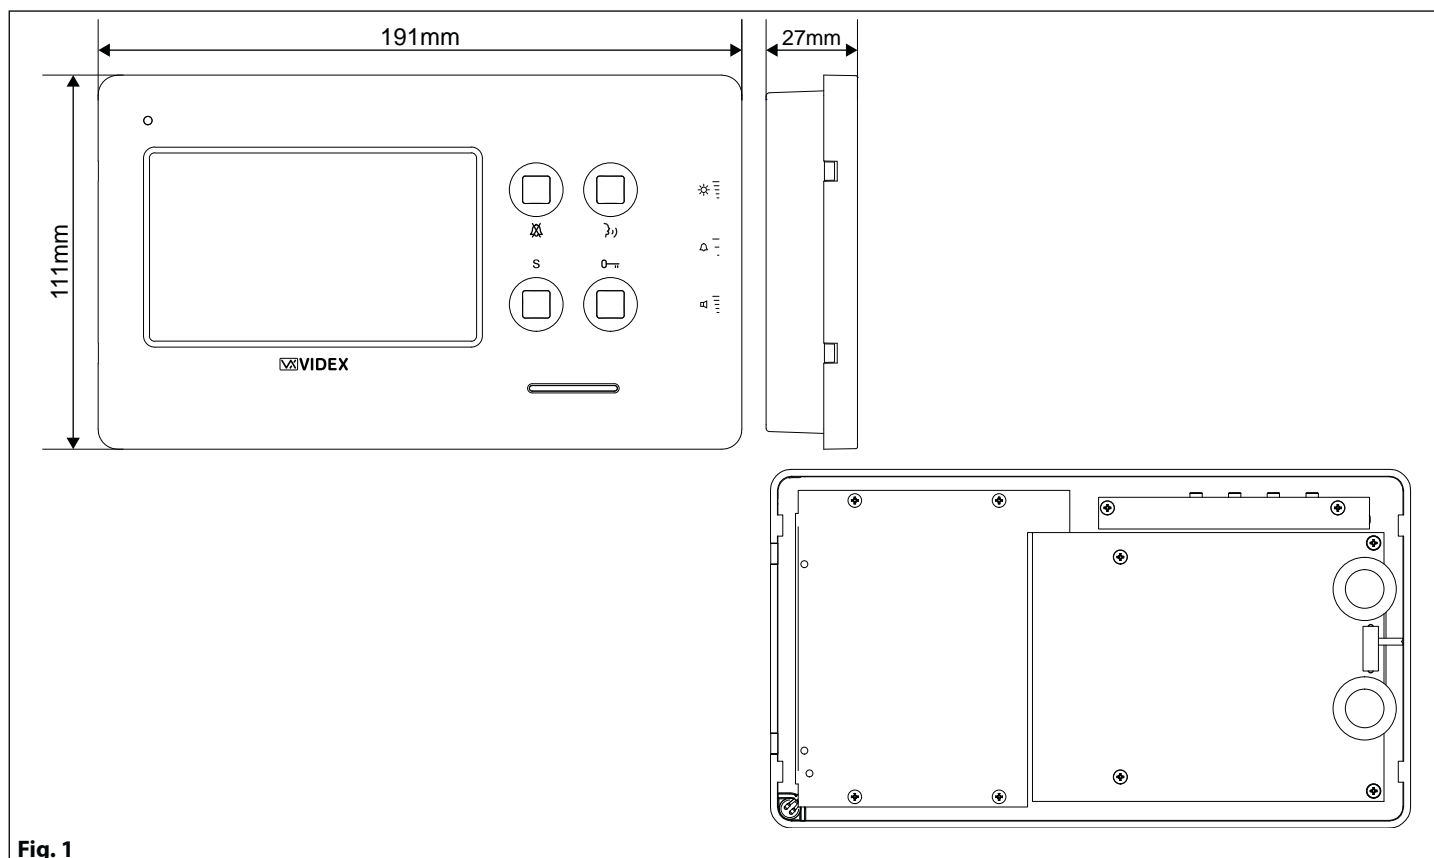

Fig. 1
1. Place the surface box against the wall (165-170cm between the top of the box and the floor level as shown in **Fig. 1**) and mark the fixing holes for the wall plugs and the hole for the cables **E (fig. 2)**. Observe the orientation of the box with the hinge on the left;
1. Protect the module support frame fixing holes from dust then embed the back box into the wall (165-170cm between the top of the box and the floor level as shown on the **Fig. 1**) feeding the cables **E (Fig. 2)** through a previously opened hole in the box. Observe the direction of the box ensuring the hinge is on the left and take care that the box profile is in line with the finished wall profile;
PUSH BUTTONS (FIG. 1)